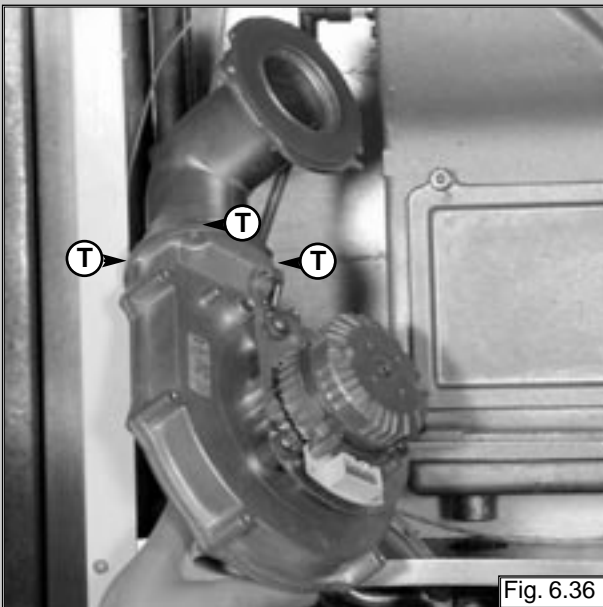

Fig. 6.36
2. Remove the fan, unscrew the screws "T" (FIG. 6.36+6.37);